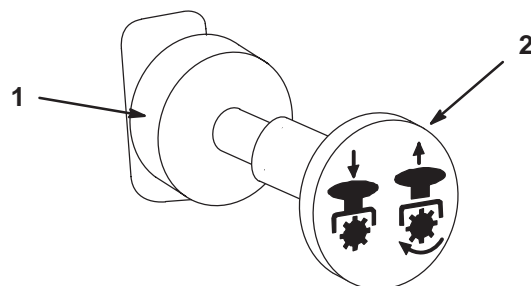

Figure 19
- Pull out on the power take off (PTO) switch to engage (Fig. 19).
- To disengage push the PTO switch to the off position (Fig. 19).